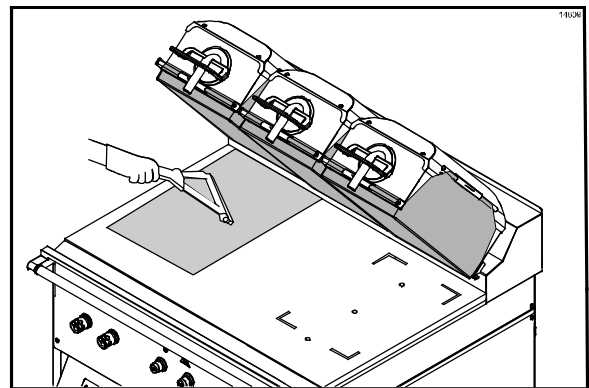

Figure 75
50. Using the grill squeegee, gently squeegee out air bubbles, making sure not to crease or fold the release sheet. (See Figure 75.)